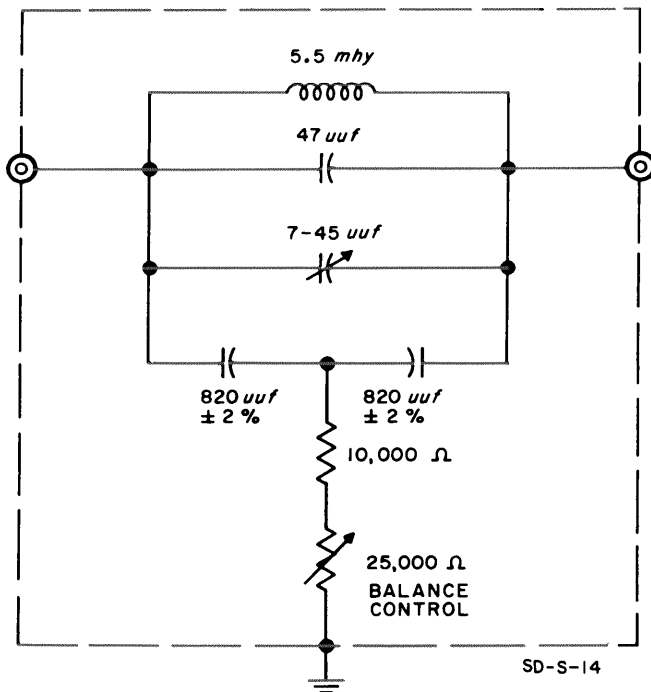
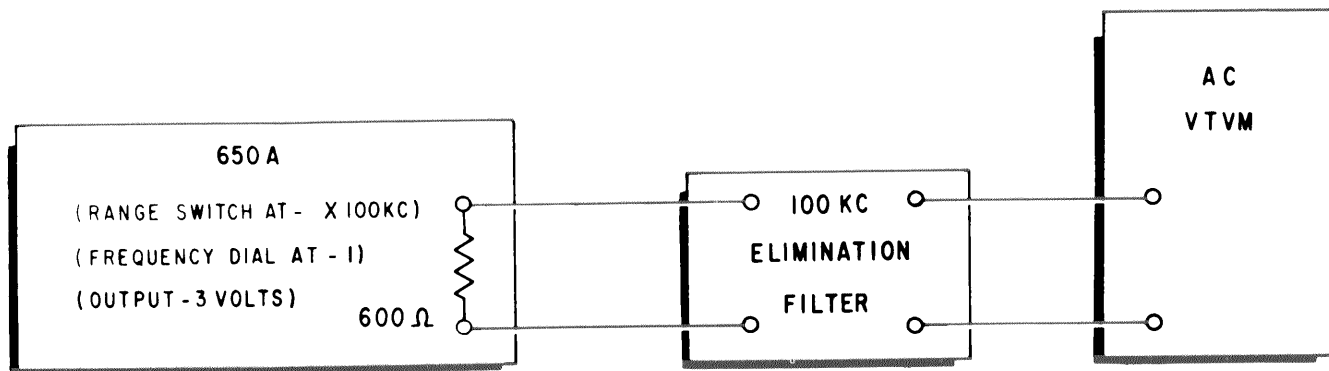

Figure 4-2. 100 kc Filter
Figure 4-4. Equipment for High Frequency Distortion Measurement
g. Elimination filter for 100 kc as shown in Figure 4-2. Any coil and capacitor combination can be used that will resonate at 100 kc. If a different inductor is used, the value of the balance control and series resistor will have to be changed. The inductor shown in Figure 4-2 can be obtained under $\text{\textcircled{p}}$ Stock No. 48-3.
- D. Connect 100 kc filter shown in Figure 4-2 across output terminals and an external ac meter across filter output terminals. The meter used must be capable of accurately measuring frequencies that are harmonics of 100 kc. See block diagram given in Figure 4-4.